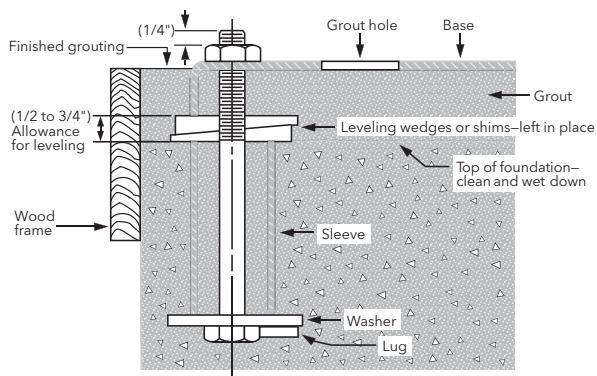

Figure 1
- It is recommended that the baseplate be grouted to a foundation with a solid footing, per Figure 1.
- As depicted in Figure 1, place the baseplate on wedges, locating two wedges at each foundation bolt location. A gap of 3/4" to 1 1/2" (19 mm to 64 mm) is recommended between the baseplate and the foundation for grouting. Adjust the wedges as necessary to level the baseplate.